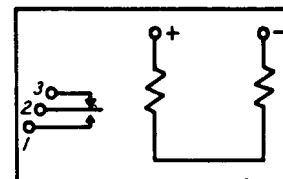

FIG 17 - WINDING TERMINAL ARRANGEMENT AS VIEWED FROM THE REAR (TERMINAL SIDE) - 177 AND 203 TYPE RELAYS
2.15 As viewed from the front of the relay the front contacts are indicated by 1 and 4, the travel springs (the springs picked up by the hard rubber bridge) by 2 and 5 and the back contacts by 3 and 6. The winding terminal designations as viewed from the rear of the relay are shown on Fig. 17. The designations + and - illustrated in Fig. 17 indicate which polarity of the battery should be connected to this point.